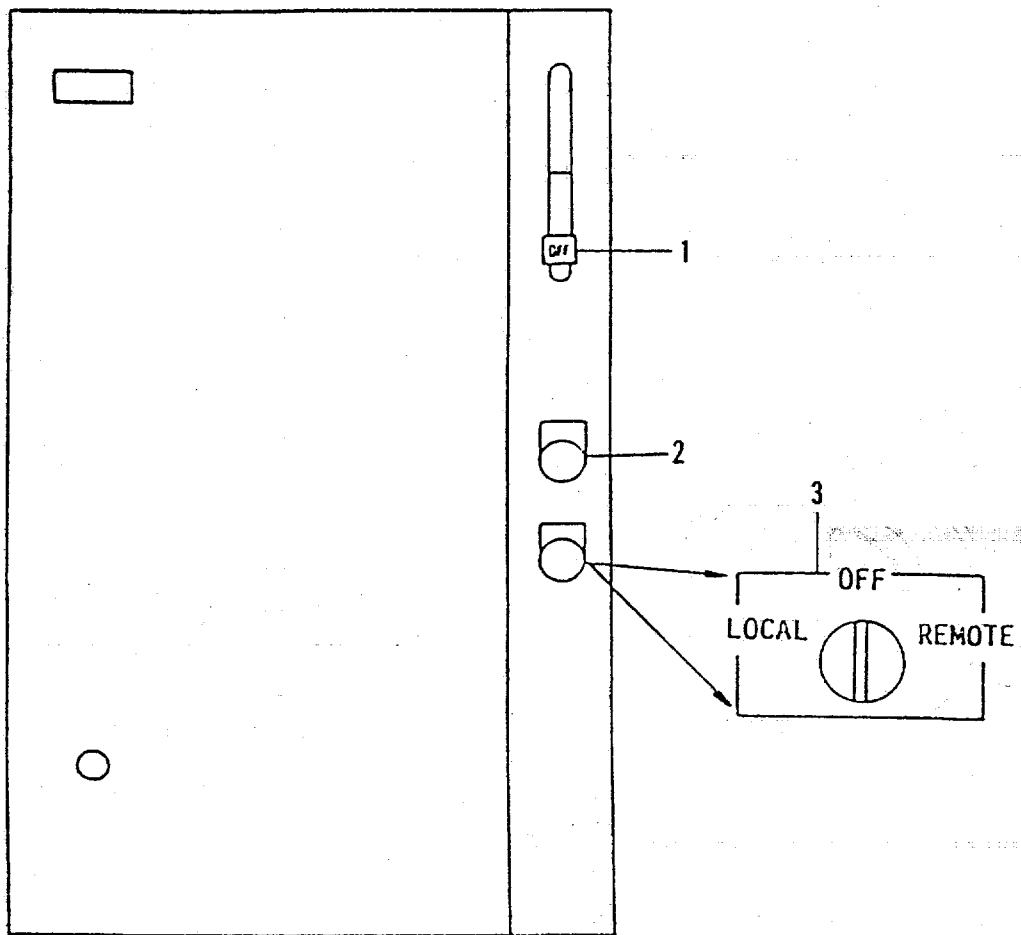

FIGURE 2-149.4. Steering Gear Motor Controller
- (16) Ensure that the STEERING GEAR MOTOR CONTROLLER PANEL (FIGURE 2-149.4)), located in the steering compartment, "CIRCUIT BREAKER SWITCH" (1) in the "ON" position on each panel.
- (17) Ensure that the STEERING GEAR MOTOR CONTROLLER PANEL (FIGURE 2-149.4) , "LOCAL/OFF/REMOTE SWITCH" (3) is in the "REMOTE" position on each panel.
- (2) On the STEERING GEAR MOTOR CONTROLLER (FIGURE 2-149.4) set the "CIRCUIT BREAKER LEVER" (1) to the "OFF" position on each motor controller.